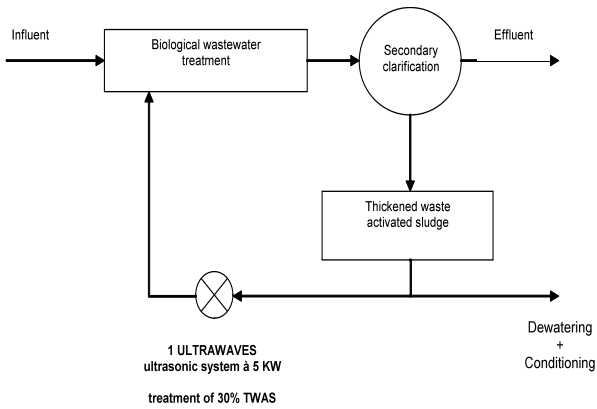

Fig.1: Scheme of sludge treatment on Leinetal WTP
- 30% of the total TWAS flow were treated with 1 ULTRAWAVES US unit à 5kW, operating 24 hours per day. The treated TWAS was returned to the aerobic tank (Fig. 1)